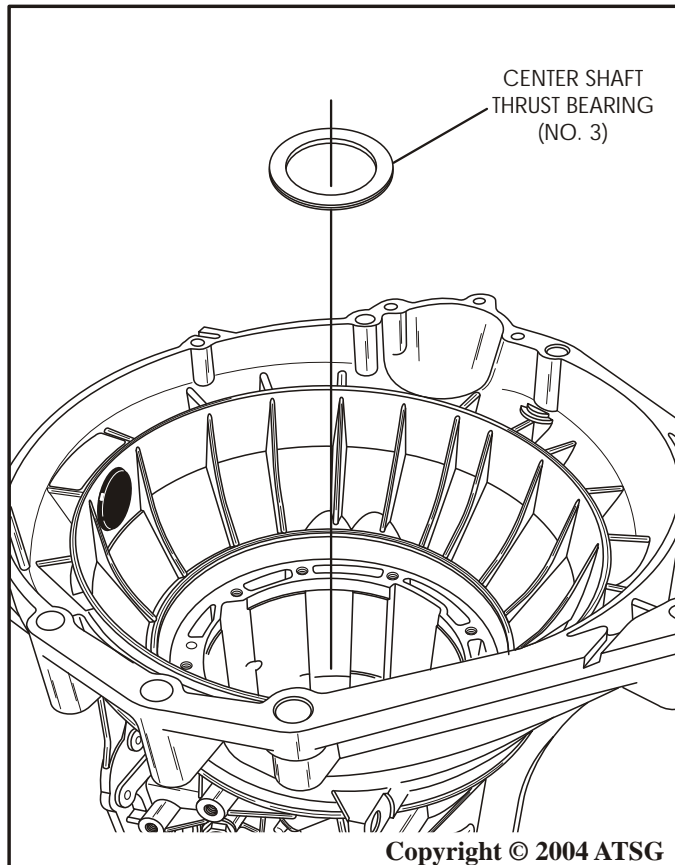

Figure 156
42. Install the center shaft to center support thrust bearing (No. 3) onto the center support, as shown in Figure 156.